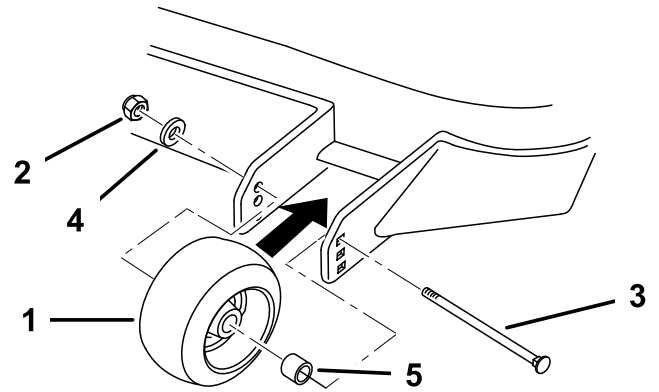
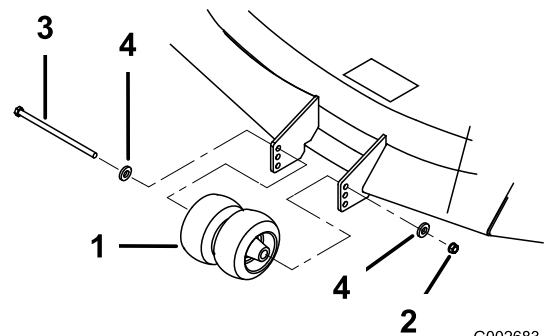

Figure 24
Figure 25
1. After adjusting height-of-cut, check the gage wheels so that there is a minimum of 3/8 inch (10 mm) clearance above the ground (Figure 24 and Figure 25).
2. If adjustment is needed, remove the bolt, washers and nut (Figure 24 and Figure 25).
3. Select a hole position so the gage wheels are a minimum of 3/8 inch (10 mm) off the ground (Figure 24 and Figure 25).
4. Install the bolt, washers and nut (Figure 24 and Figure 25).
3. Remove the lower flange bolts (3/8 x 1 inch) and flange nuts securing handle to rear frame (Figure 25).